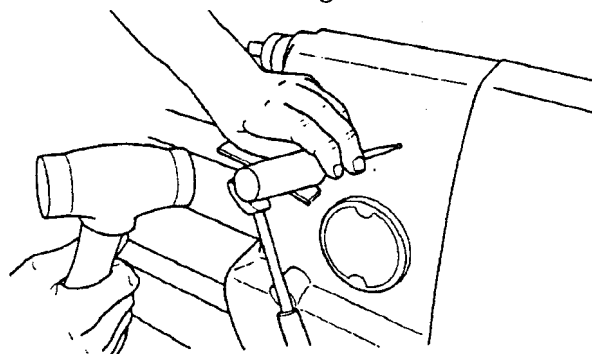

Fig. 4
5. Use a punch and hammer to make an indentation on each pencil mark, as seen in Fig. 4.